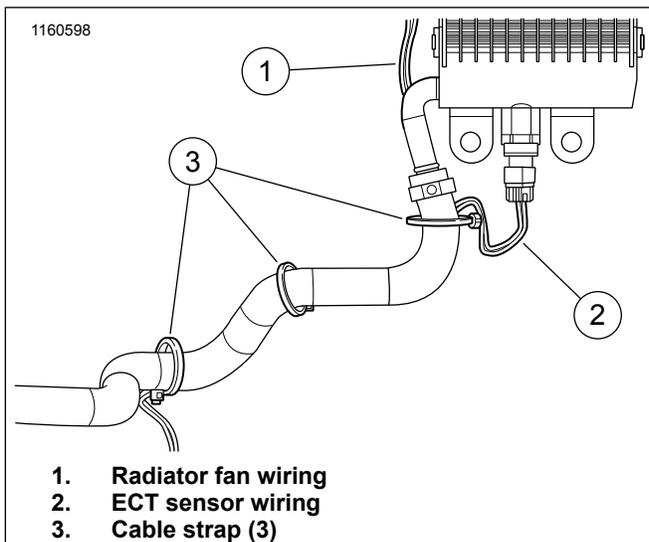

Figure 13. Securing Left Fan/ECT Sensor Wiring to Hose
16. Refer to Table 1. Locate cable strap (13).
17. See Figure 13. Secure radiator fan wiring and Engine Coolant Temperature (ECT) sensor wiring to coolant hose. Place cable straps in the three positions.